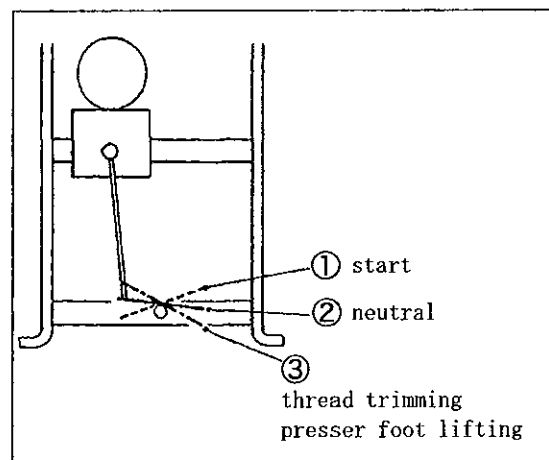

Fig. 20
- (1) Heel back the pedal to raise the presser foot.
(Fig. 20 ③)
- (2) Place a fabric under the presser foot and toe down the pedal. (Fig. 20 ①)
- (3) Release the pedal. (Fig. 20 ②)
- (4) Heel back the pedal. (Fig. 20 ③)
- (5) Release the pedal. (Fig. 20 ②)